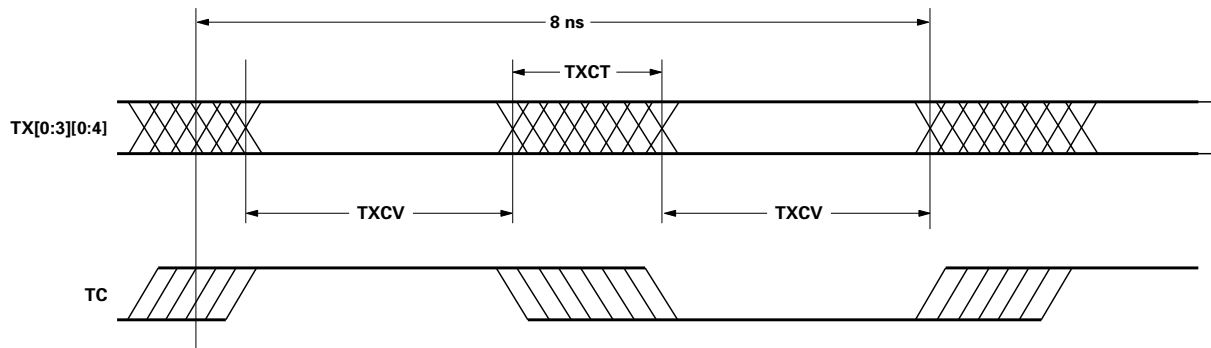

Figure 3. Transmitter section parallel input timing.
For each channel, the transmitter accepts 10-bit characters as two groups of 5-pin single-ended SSTL\_2 parallel data at inputs TX [0:3][0:4]. The SSTL\_2 TC clock provided by the sender of transmit data is used for all channels as the transmit byte clock. The TX [0:3][0:4] and TC signals must be properly aligned, as shown in Figure 3.
The transmitter Phase Locked Loop and Clock Generator (TX PLL/CLOCK GENERATOR) block generates all internal clocks needed by the transmitter section to perform its functions. These clocks are based on the transmit byte clock (TC). TC is also used to determine the sampling window for the incoming data latches. Incoming data is synchronous with TC (see Figure 3).